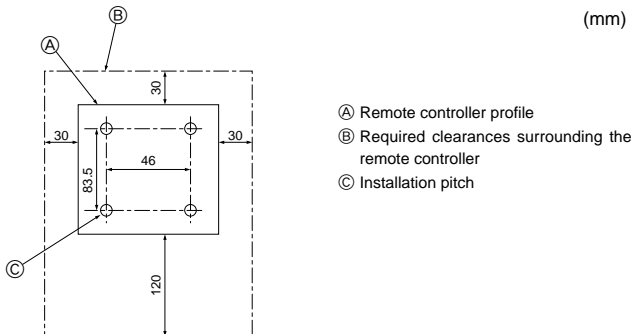

Fig. 6-2
6.2. Remote controller (Fig. 6-2) For wired remote controller